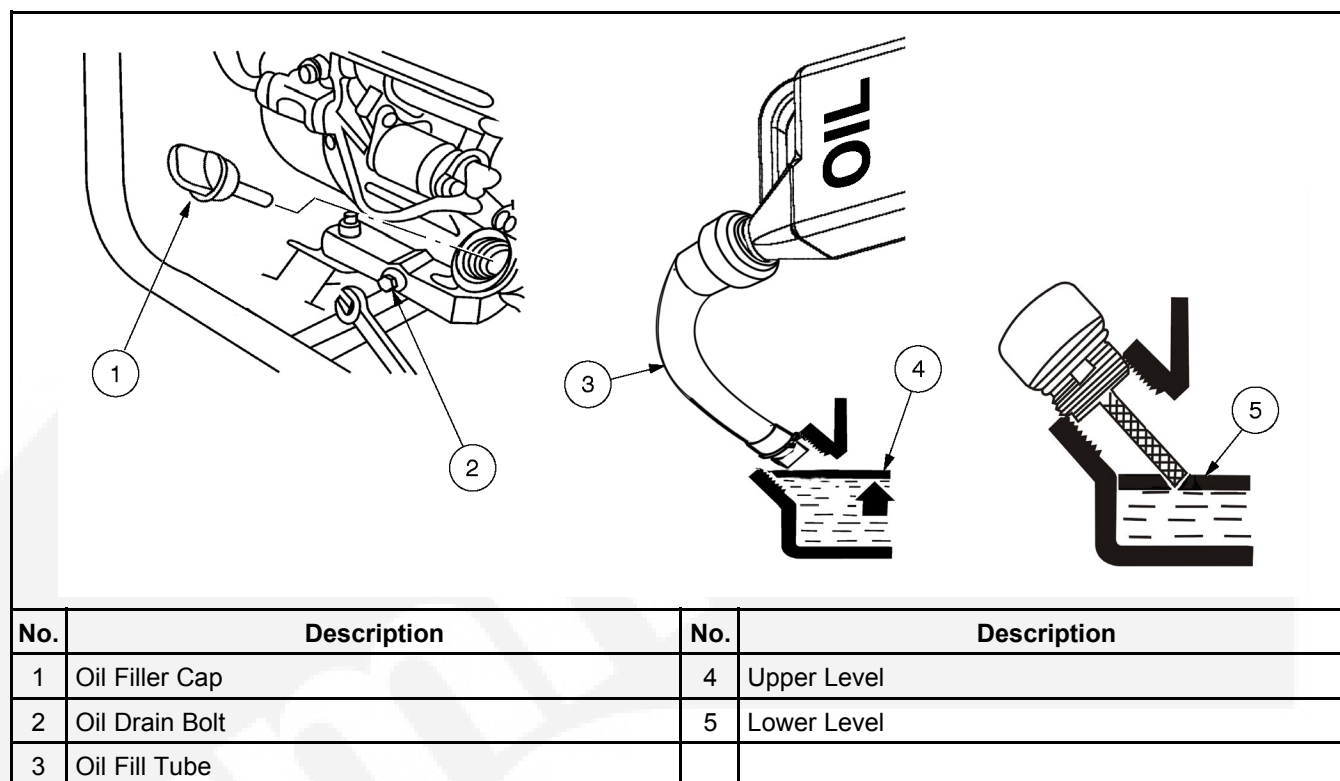

FIGURE 17. OIL CHECK, FILL, AND DRAIN
Refer to the Periodic Maintenance Schedule Table in the "Maintenance Schedule" section for scheduled oil changes and Figure 17.
2. Stop the generator set and remove the oil fill cap (see Figure 17).